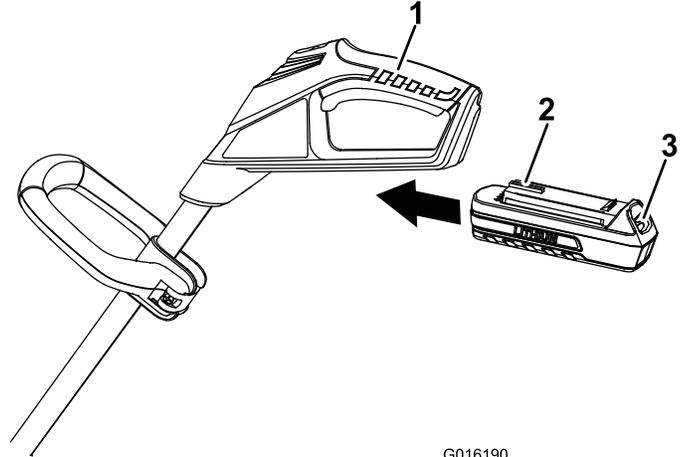

Figure 6
- Align the tongue of the battery pack with the cavity in the handle housing (Figure 6).
- Grasp the trigger handle (Figure 6).